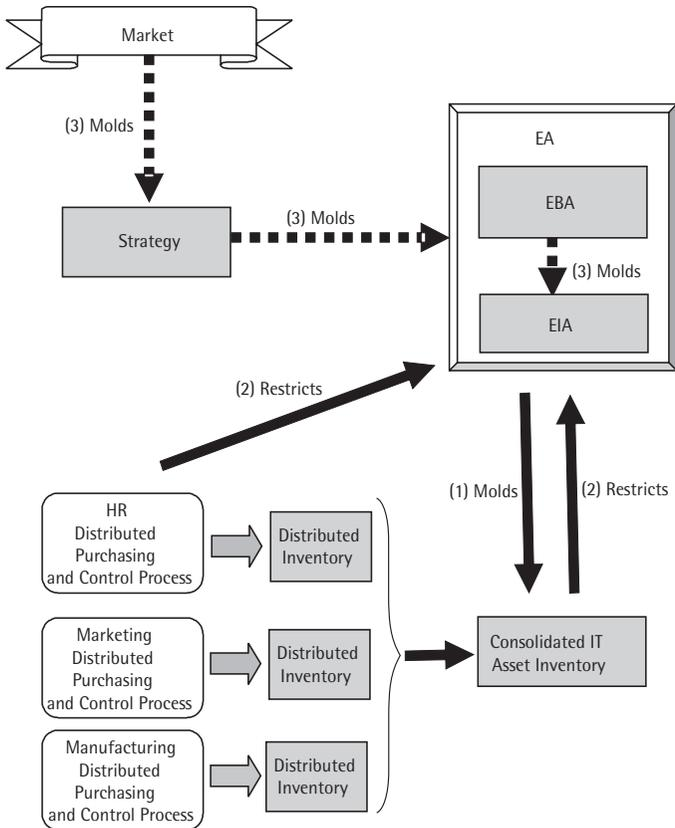

Figure 6.3 Effects of distributed and consolidated asset inventories on the enterprise architecture.
procurement and control processes. Figure 6.3 shows how the asset inventory is molded by both the EA (ideal) and siloed business units (nonideal) as well as how the EIA is restricted by existing assets and by decisions made by out-of-touch business units. So, to increase the freedom of the EIA team to influence the flexibility of the EIA-to-market dynamics (3), restrictions need to be reduced (2). And by reducing the authority of business units through a centralized asset management system, an organization can help eliminate those restrictions. (An animated version of Figure 6.3 appears in the AARK Management PowerPoint presentation in the accompanying CD-ROM.)